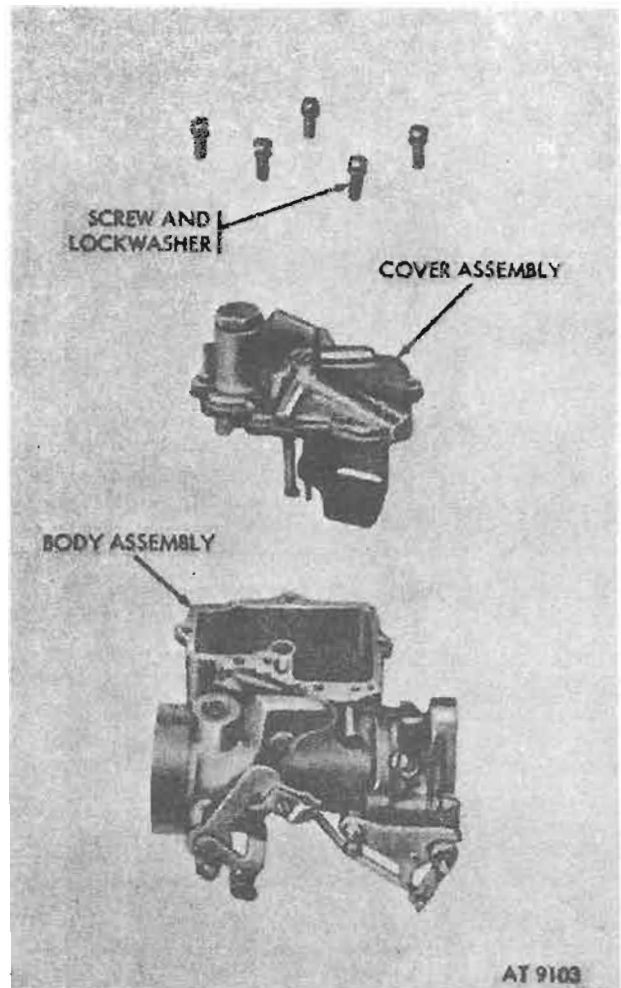

Figure 5-7. Carburetor cover and attaching screws.
- (1) Remove five cover attaching screws and lockwashers and lift cover from body (fig. 5-7).